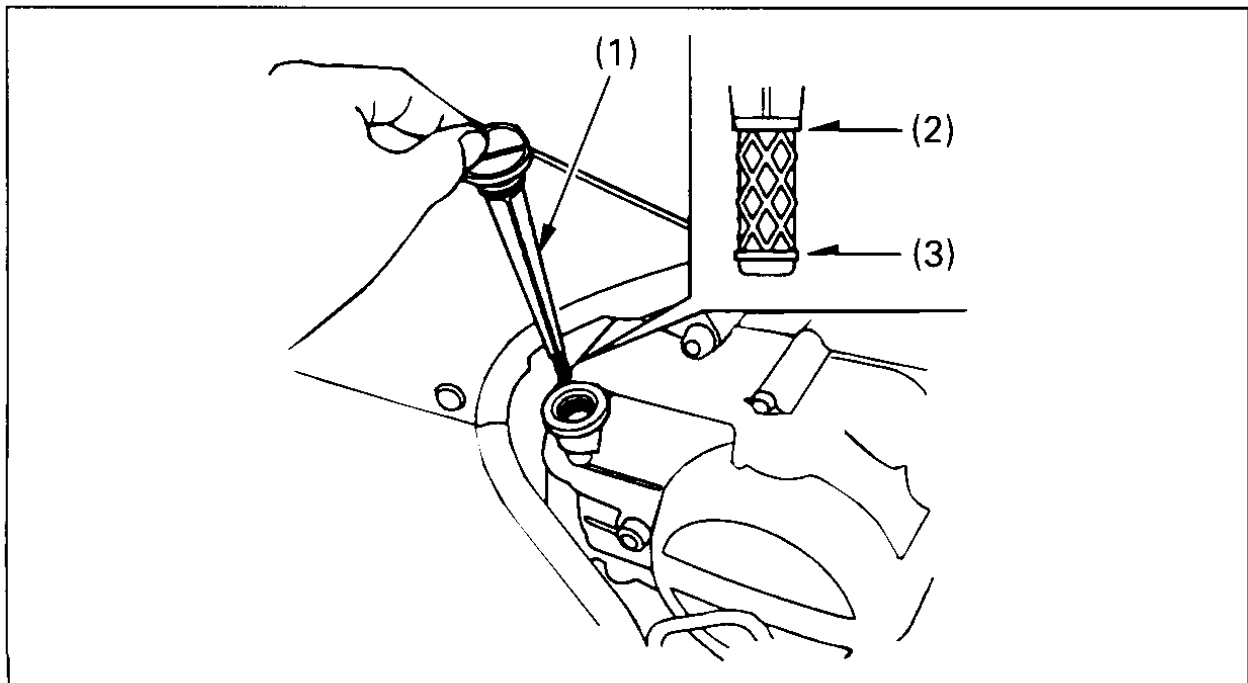

Fig. 4-8
4. After a few minutes, remove the oil filler cap/dipstick (1) (Fig. 4-8) from the right crankcase cover and wipe it clean.
5. Insert the dipstick without screwing it in, then remove the dipstick and check the oil level. The oil level should be between the upper level mark (2) and the lower level mark (3) on the dipstick.
1. With the Sportrax on level ground, remove the oil filler cap/dipstick from the right crankcase cover (Fig. 4-8).